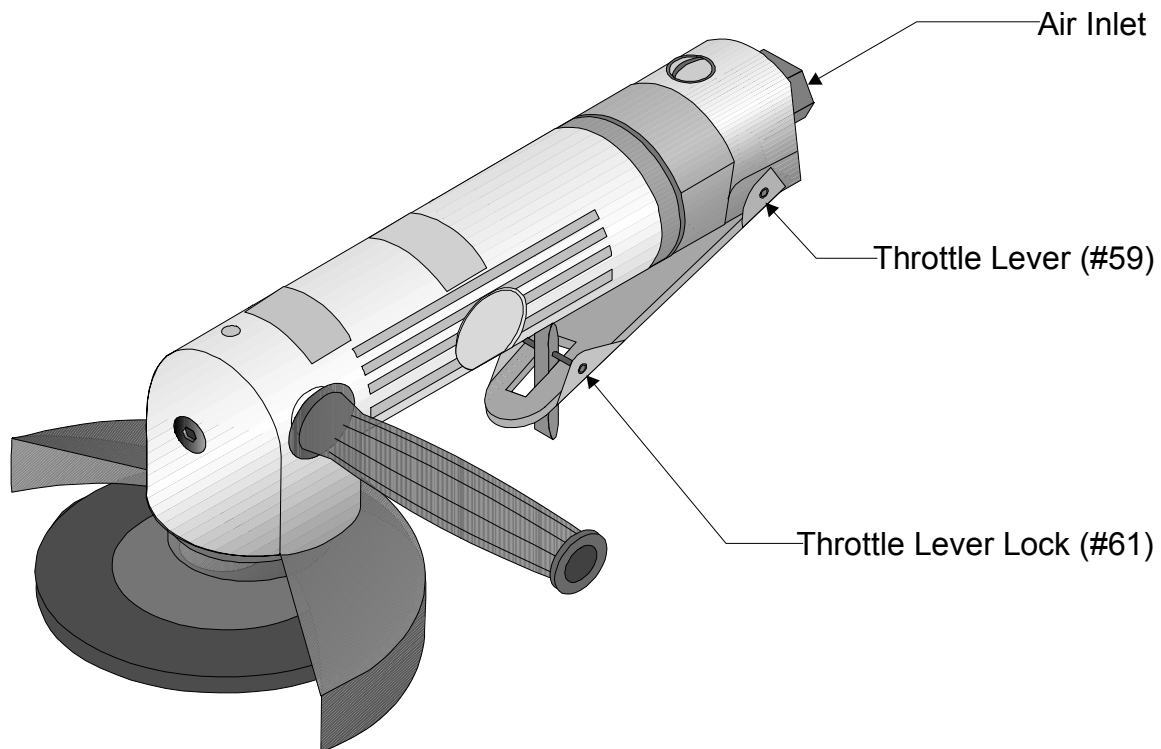

Figure 7 — Lubrication Points
Step 3: Apply a few drops of oil to the THROTTLE LEVER (#59) as shown in Figure 7. Work the THROTTLE LEVER a few times to lubricate.